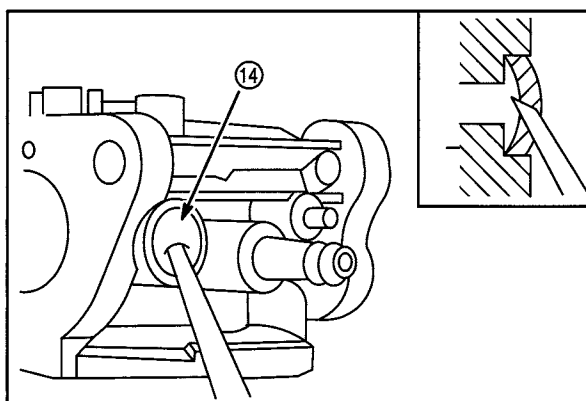

Fig. 29
10. Use a punch as shown and remove throttle shaft welch plug (14), Fig. 29.